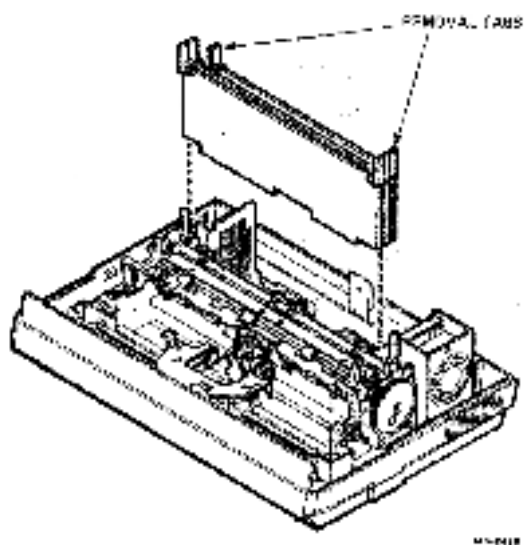

Figure 2-9 PCB Removal
5. Remove each PCB by lifting the inside edges of the removal tabs (Figure 2-9). Then lift the PCB straight out of its connector via the guides (slots) on each side of card cage.